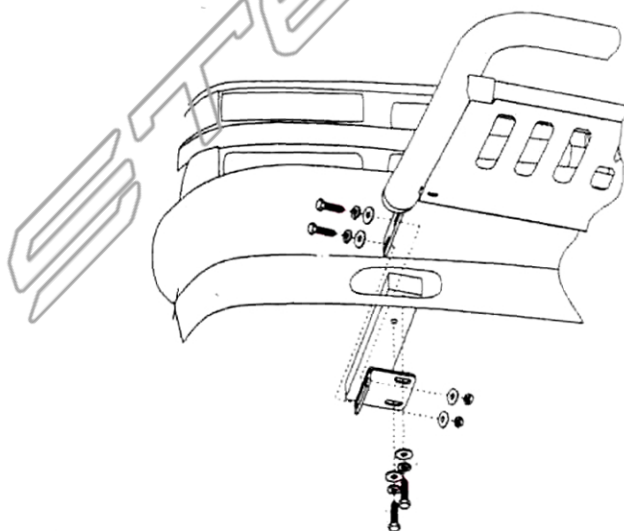

Figure 1
5. Hang Mounting Bracket into position by partially threading front existing bolt into existing nut plate. Make sure rear tow hook hole is aligned with nut plate and insert existing rear tow hook bolt (Figure 1). Do not tighten at this time.
6. Attach Bull Bar on the outer side of Mounting Brackets through tow hook opening in lower air dam. Use the included 12-1.75mm x 30mm Hex Bolts, 12mm Flat Washers, 12mm Lock Washers, and 12mm Hex Nut to secure Bull Bar to Mounting Brackets (Figure 1).